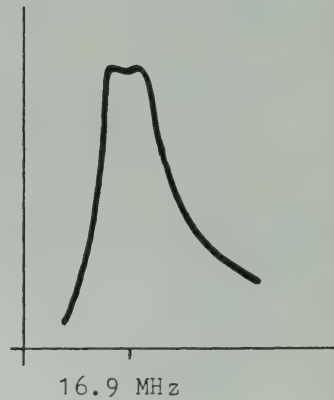

Fig. 18
- \* Adjust L304 and L305 so that the waveform display on the spectrum analyzer becomes maximum, and closely resembles the display shown in Fig. 18.